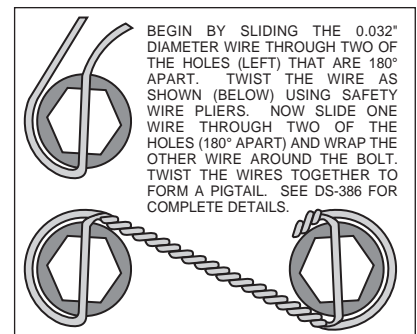
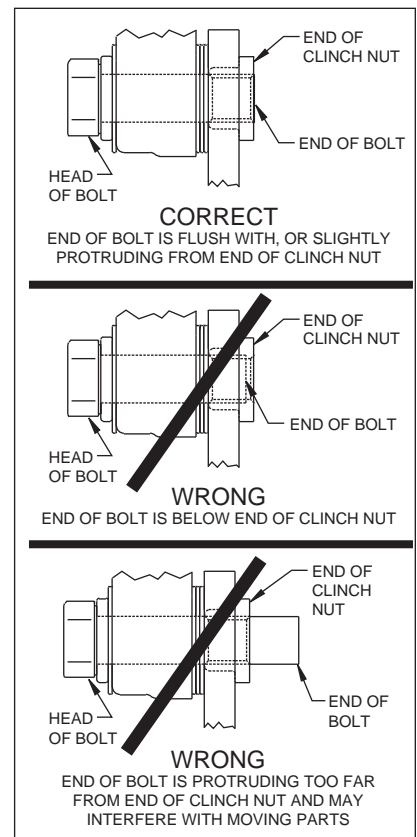

Figure 4. Safety Wire Diagram
Figure 5.
Assembly Instructions (numbers in parenthesis refer to the part list/diagram on the preceding pages): **CAUTION:** All mounting bolts must fully engage insert nuts. Be sure to check that all bolts are either flush or protruding through flanged side of insert nut after shimming, Figure 5.
- With the mounting ears pointing towards the rear of the vehicle, install the caliper mounting bracket (1) to the housing flange using the bolts and nuts supplied with the C-clip eliminator kit. Apply red *Loctite*® 271 to the bolt threads and torque to OEM specifications. **NOTE:** The caliper mounting brackets (1) should be located between the axle housing flange and the inner C-clip hub. Make sure the heads of the caliper mounting bracket insert nuts are FACING OUTWARD TOWARDS THE WHEEL.
- Bolt the hat (2) to the rotor (3) using washers (4) and bolts (5). Torque bolts (5) to 180 in-lb. Safety wire bolts (5) using standard 0.032 inch diameter stainless steel safety wire as shown in Figure 4. Please refer to Wilwood's data sheet DS-386 (available at www.wilwood.com/Pdf/DataSheets/ds386.pdf) for complete safety wire installation instructions.
- Align the correct hole pattern in the hat (2) with the stud pattern on the axle flange. **NOTE:** Some OEM and after market axles come with stud sizes larger than 0.50" diameter. Verify stud size and have a qualified machine shop drill the hats to the correct size. Slide the hat/rotor assembly (2 and 3) over the wheel studs and against the axle flange face.
- NOTE:** Please reference the caution statement at the beginning of the assembly instructions. WITH THE BLEED SCREWS POINTING UP, mount the caliper (6) over the rotor (3) and onto the caliper mounting bracket (1) using washers (7) and mounting bolts (8). View the rotor through the top opening of the caliper. The rotor should be aligned in the center of the caliper. If not, adjust the caliper by using 0.032 inch shim washers (9), placing them between the caliper mounting bracket (1) and the caliper (6). Add as many shim washers (9) as necessary to achieve the correct alignment. **NOTE:** The end of the bolt must be flush with or slightly protruding from the head of the clinch nut. See Figure 5. Place spare shims (9) between washer and caliper mounting ear to achieve the proper mounting fastener configuration. Always use the same amount of shims on both the top and bottom caliper mounting bolts (8). Apply red *Loctite*® 271 to the mounting bolt threads (8), torque bolts to 30 ft-lb. Safety wire the caliper mounting bolts (8).
- Position the Wilwood disc brake pads (10) into the caliper (6) and fasten with cotter pin (11). Steel backing plate side of brake pad should face the caliper pistons.